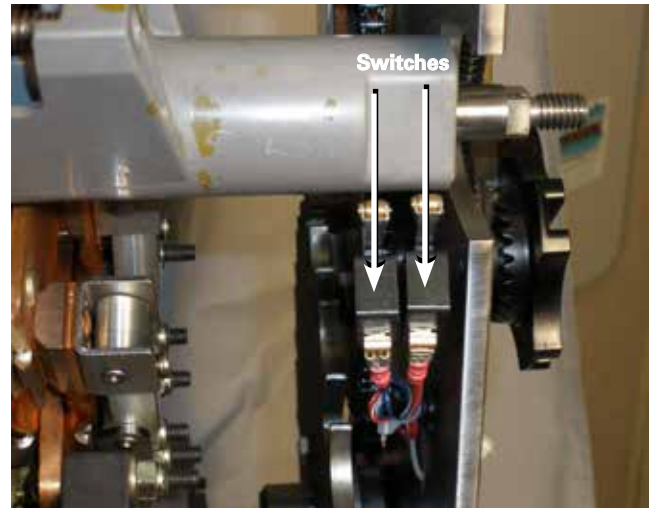

Figure 35. Loose logic switches.
- After removing the reversing logic switch mounting screws the switch will drop away from the reversing movable switch tube. See Figure 35.